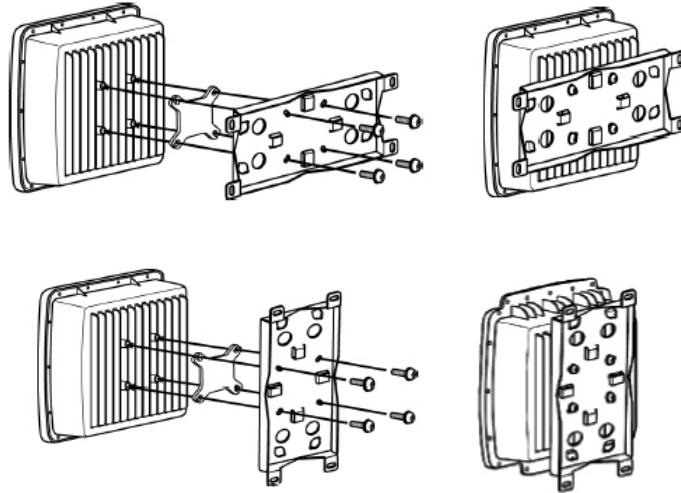

Figure 5-3. Attaching the Mounting Plate
Attach the mounting plate and spacer using the four flat washers, spring washers, and M6x20 screws as shown in Figure 5-3 (horizontal and vertical mounting options are shown). Then follow:
2. Attach the mounting plate to the router, as shown in Figure 5-3.